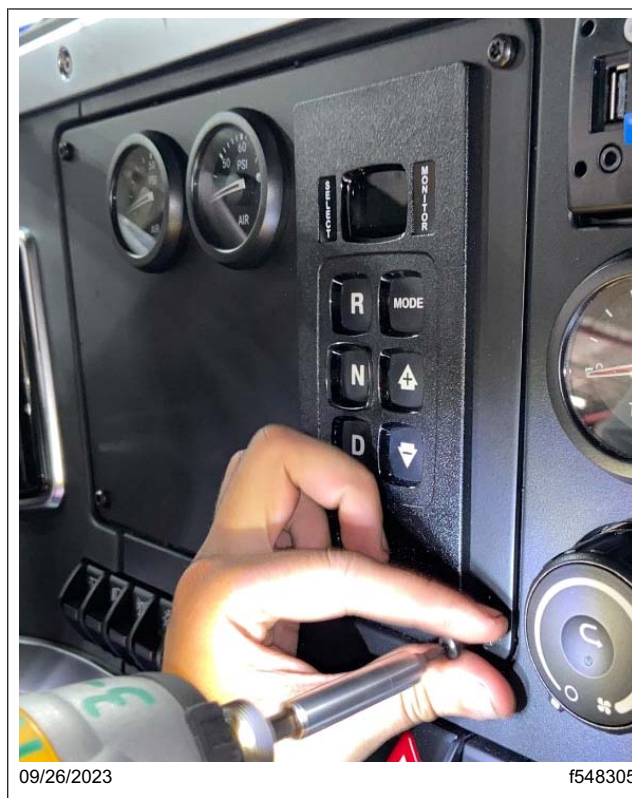

Fig. 37, Auxiliary Dash B-Panel Removal
12.4 Remove the auxiliary dash B-panel. See Fig. 37.